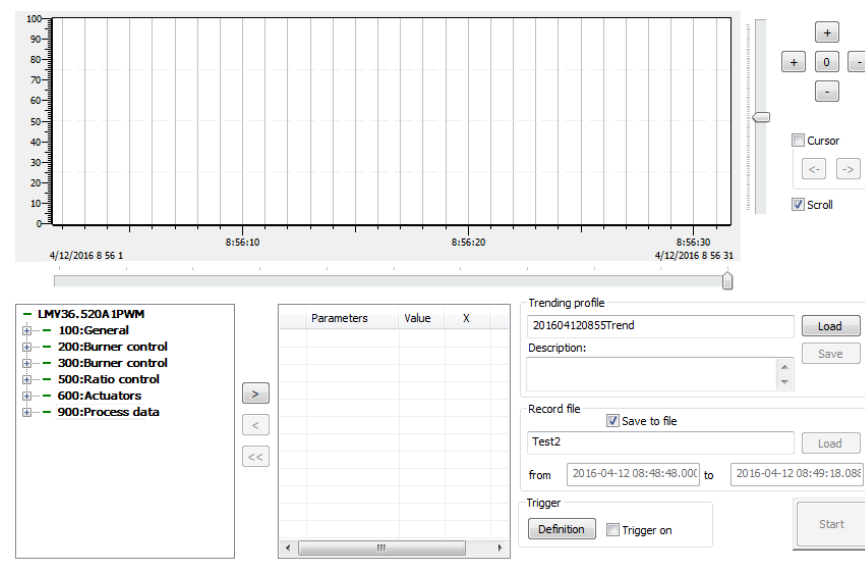

Figure 8-1: The ACS410 Trending Screen
1. Open the ACS410 software and connect at the desired access level. For example, when logged in at the user level, only user level parameters can be trended. See previous sections if necessary. Most parameters that are desirable to trend are user level parameters (900 series parameters). After the connection is established, click on the “Trending” tab. An example of the trending screen is shown below in Figure 8-1.